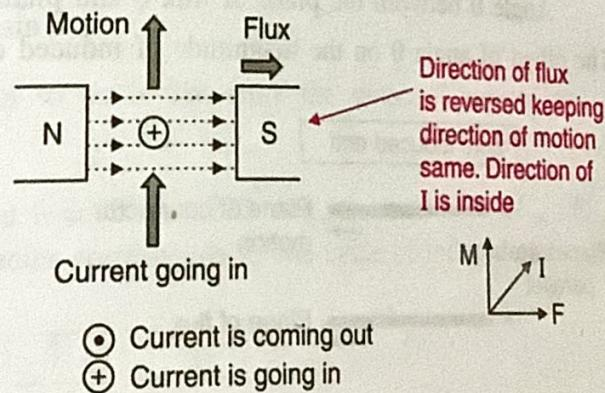

**Fig. 7.4.1 : Illustration of Fleming's right hand rule**
Fleming's right hand rule can be used to obtain the direction of induced e.m.f. For that refer to Fig. 7.4.1, where the conductor is moving in right angles to the field.
- Let the thumb and first two fingers of the right hand be arranged in right angles with each other as shown in Fig. 7.4.1. Let the first finger point in the direction of lines of force (N to S pole), and the outstretched thumb point the direction of conductor motion. Then the second finger indicates the direction of the induced e.m.f. (or current).
Fig. 7.4.1(a) can be used to verify the Fleming's right hand rule. With the thumb indicating the direction of conductor movement and first finger indicating the direction of flux, the induced current  $I$  comes out of the conductor in the direction indicated by the second finger.